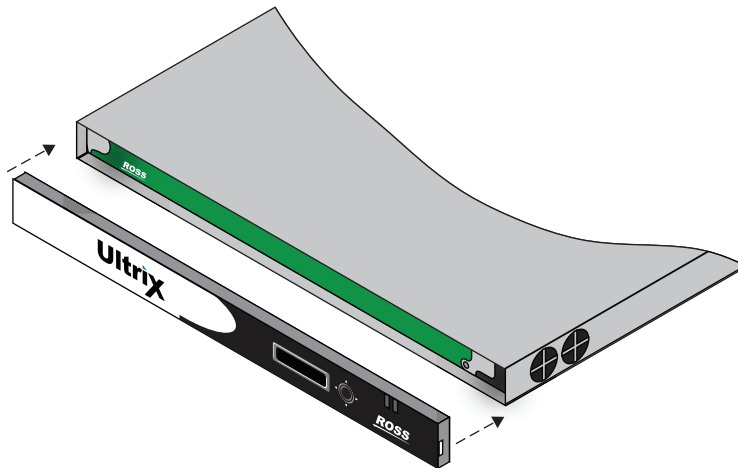

Figure 95 ULTRIX-NS-FR1 — Aligning the Door to the Chassis
1. Align the door to the front of the router, ensuring that the door is oriented upright, the corner with the Ultrix logo is in your left hand, and the corner with the Ross logo is in your right hand. (Figure 95)